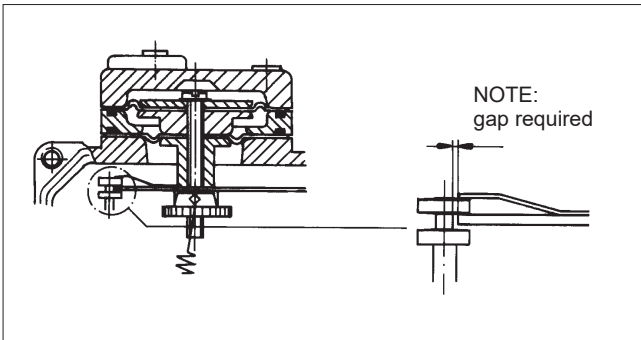

Fig. 15. Replacement of diaphragms
Table 4 shows the shift on the circumference of the cam equal to the "dead angle" of the valve, Figure 15, in various cam segments (C, E, D).
1. Mark the shift in question on the edge of the cam, Fig. 15 and Table 4. Dimensions do not have to be measured if the dead angle can be reliably noticed from position of the closing member.
2. Lock the cam so that the roller touches the edge of the cam plate at the mark. Tighten the locking wheel (30) and the screw (31).
3. Switch on the supply pressure (S) and the input signal (+/-). Note the correct polarity.